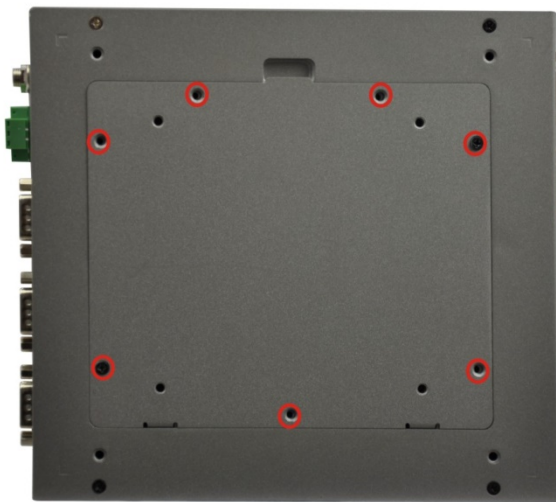

Figure 3-1: Remove Retention Screws (Bottom Panel)
- Step 1:** Remove seven retention screws from the bottom panel, as shown in **Figure 3-1**.